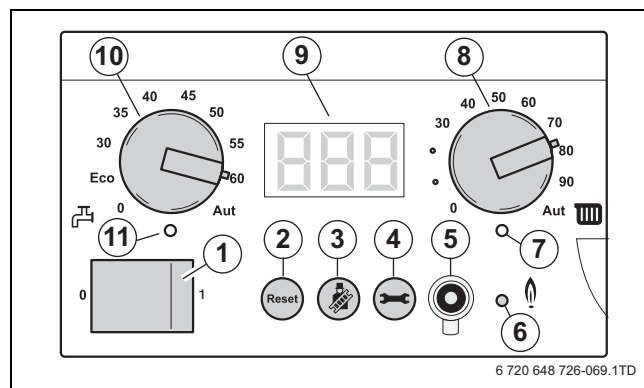

Fig. 94 BC10 basic controller
- ▶ Set the upper CH flow temperature limit for heating mode (→ table 17) using the "Maximum CH flow temperature" dial (→ fig. 94, [8]).
The setting at the BC10 cannot be adjusted via the menu but must instead be set via the "Maximum CH flow temperature" dial (→ fig. 94, [8]).
- ▶ Set the DHW temperature dial (→ fig. 94, [10]) to the required temperature of the hot water in the hot water cylinder (→ table 18).